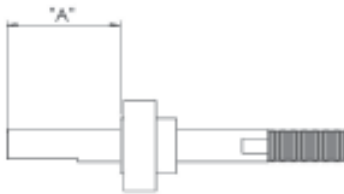

Figure 3
- If the shaft, or the first bearing on a 12" model was replaced, you will need to slide the new bearing onto the shaft with the set-screw side facing away from the motor. Adjust the bearing to the correct setting in Figure 3, and tighten both setscrews.